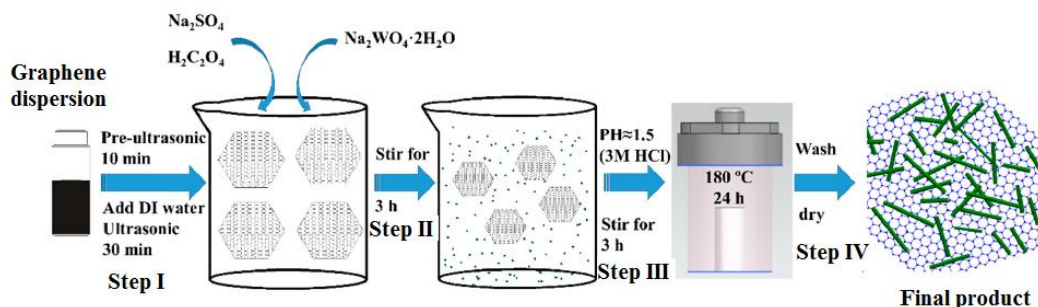

Figure 3
**Q. 3.** Schematic representation for the preparation of WO3/graphene nanocomposites is given in Figure 3, which includes step I to IV. (a) (i) What is the importance of step I and II while forming WO3/graphene nanocomposite? (ii) What would be the difference in final product if you reduce ultrasonic time in step I and ignore stirring in step II? (iii) In the final product identify the matrix and reinforcing material. [2+1+1]